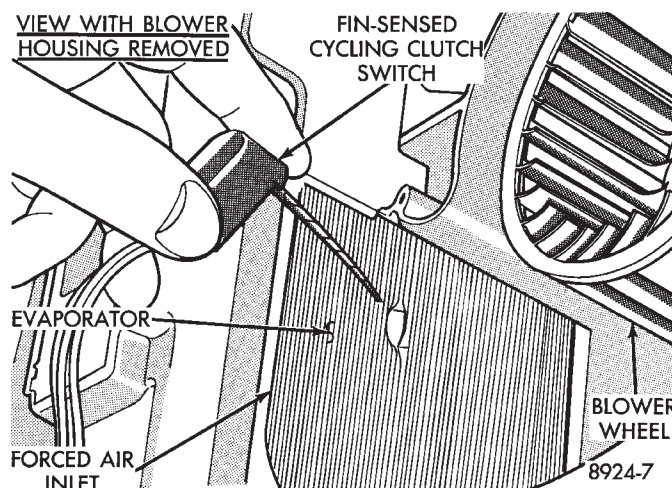

Fig. 17 Remove or Install Fin-sensing Cycling Clutch Switch
(3) Work through the air inlet opening (to the left of the blower motor wheel). Pull the fin-sensing cycling switch from the A/C evaporator (Fig. 17). **The metal probe on the switch is pushed into the evaporator approximately three inches.**